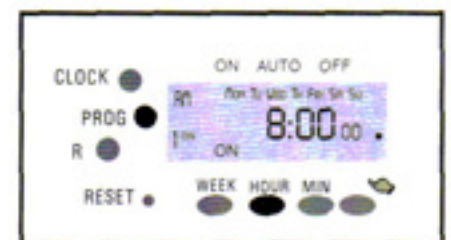
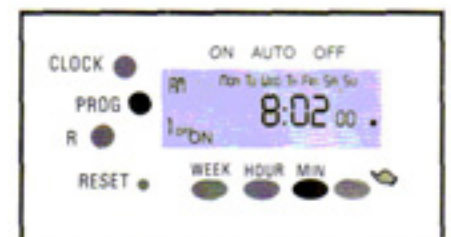

Figure 2
Figure 3
8. Set the "ON" time of the timer for the time that you want to start the feed and the "OFF" time depending on the amount of food you want to feed the pet. Example: Look at the Large feed chart and if you want to feed 9 ozs of food to your pet at 8:00:06 am in the morning. Set the Digital timer "ON" time at 8:00:06 am (See Figure 2) and the "OFF" time to 8:02:36 am (See Figure 3). This will make the feeder feed food for 2.5 minutes and it will be 9 ozs of food. If you want to feed 3 ozs set "OFF" time to 8:01:06 am. The timer is capable of 8 such ON/OFF programs. Please note that the feed chart is provided as general guidelines for feed setting. It is not accurate for all types of pet food. The feed rate and hence the "OFF" time setting may be different due to size of food, shape of food and number of pellets per pound of food (density). Note: you can also set the timer in seconds increments.